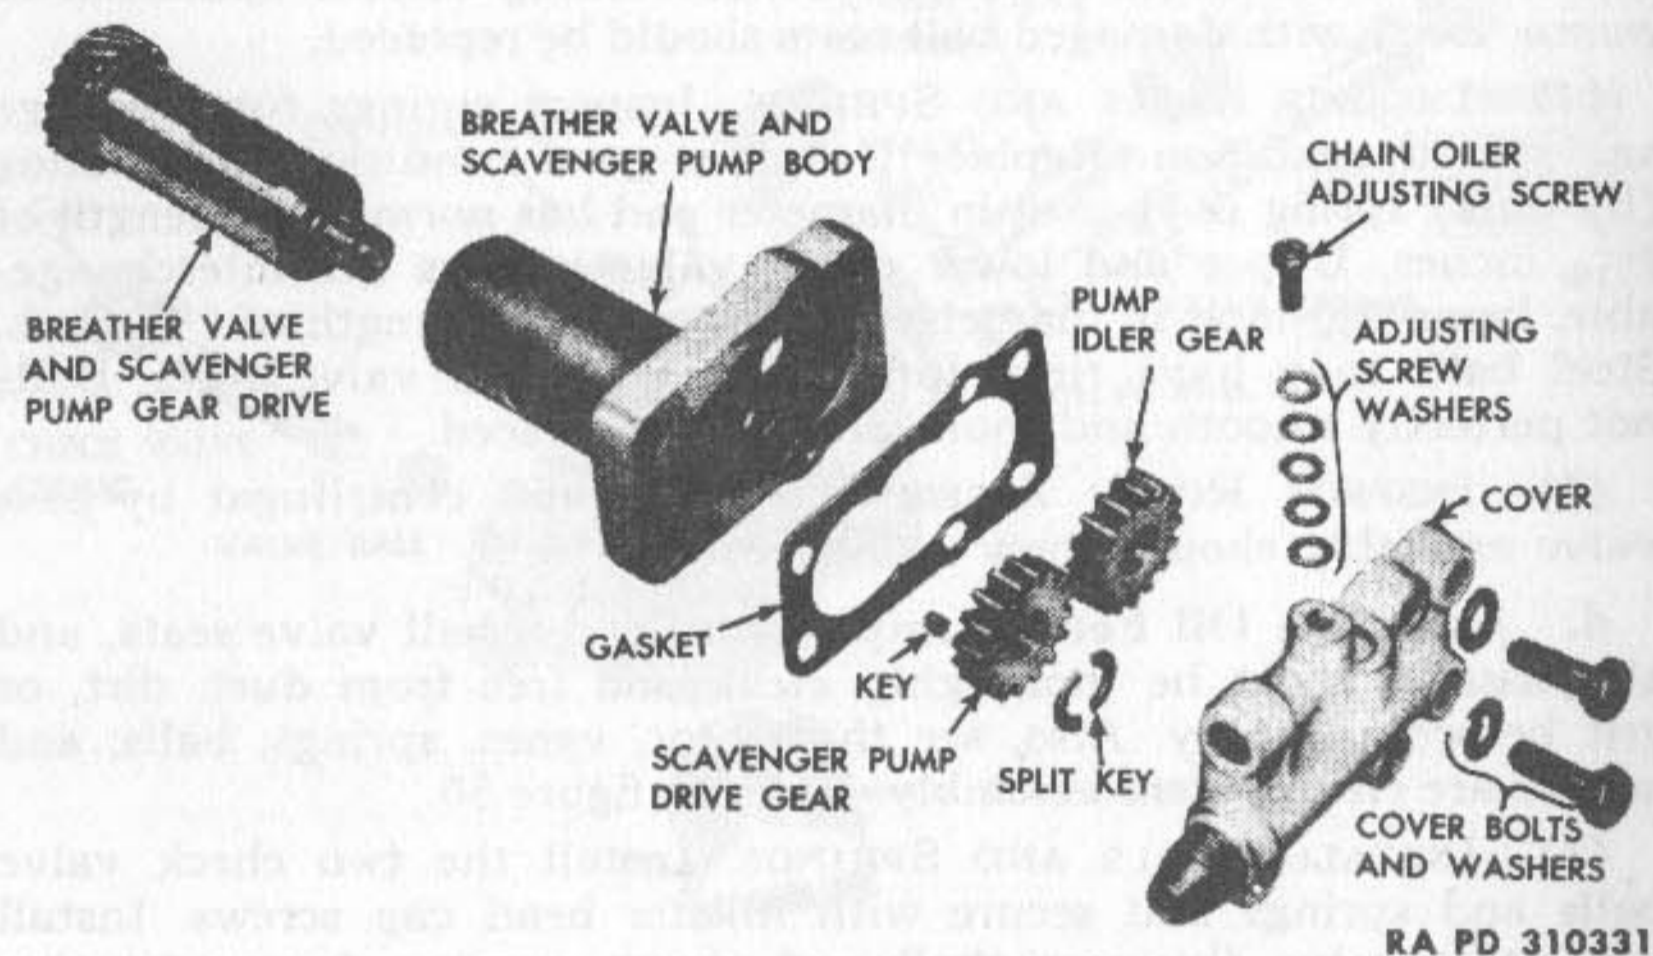

Figure 51—Scavenger Pump and Breather Valve, Disassembled
(1) **REMOVE SCAVENGER PUMP COVER.** Remove the two cap screws and separate cover from pump body, exercising care not to damage the paper gasket. With cover removed, pump gears are exposed (fig. 51). The drive gear is keyed on the rotary breather valve and the drive gear idles on the cover stud. Remove the split retaining ring from end of rotary breather valve and drive gear is free for removal.
(1) **INSTALL ROTARY BREATHER VALVE** (fig. 51). Apply engine oil to rotary breather valve and body chamber and assemble. Install key (new one if necessary) in rotary valve end and slip pump drive gear in place. Install split retaining ring. Coat gasket (use new gasket if necessary) with engine oil and locate on pump body. Install pump idler gear on cover stud and assemble cover and gear to pump body. Install the two cover cap screws and lock washers. **CAUTION:** Do not tighten cap screws until complete assembly has been installed in engine crankcase.